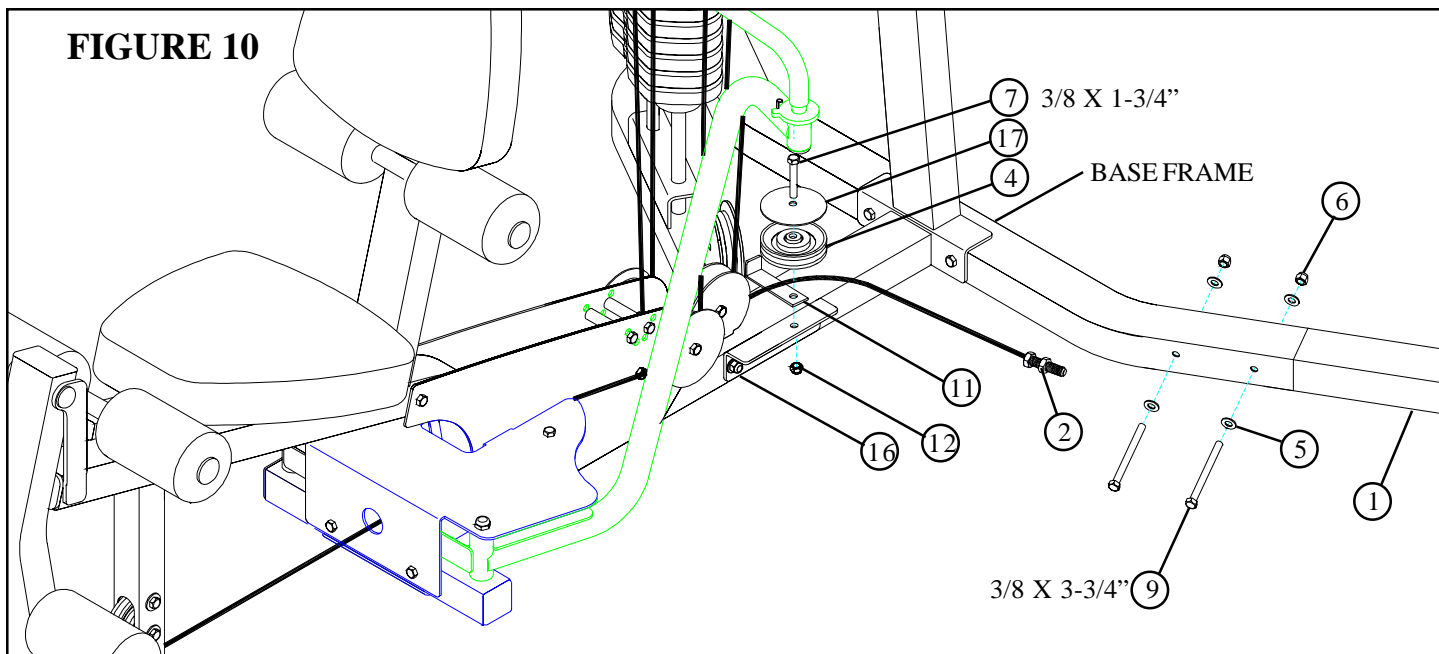

**FIGURE 9**
- SECURELY** assemble the previously removed 3-1/2" PULLEY, one previously removed 3/8 X 1" SPACER and one 3-1/2" PULLEY (4) to the BASE PLATES using one previously removed 3/8 X 3-3/4" BOLT and one 3/8" LOCK NUT. See FIGURE 9. (Note: Loop the SHORT LEG PRESS CABLE (2) around the PULLEY prior to assembling the PULLEY to the BASE PLATES.)